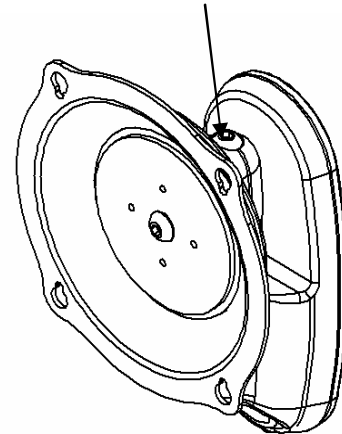

Figure 16. Adjust Lateral Tension
2. Using a 3/16" hex wrench slightly tighten or loosen lateral tension adjustment bolts (see Figure 16).